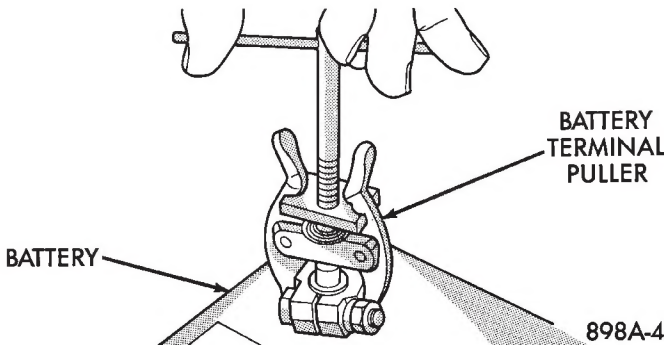

Fig. 2 Remove Battery Terminal Clamp
(2) Loosen the cable terminal clamps and remove both battery cables, negative cable first. If necessary, use a puller to remove terminal clamps from battery posts (Fig. 2).